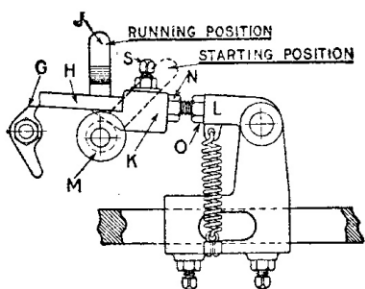

Figure 13
**Fourth.** See that the screws (Figure 13) which fasten the clamp to the push rod are tight and that the one nearest the cylinder head is in the hole in the bottom of the cam rod, then adjust the length of push rod "H" (Figure 13) until the end of the rod touches the push finger "G". Tighten locknut "O".
**Second.** Be sure timing lever "J" shown in Figure 13 is in running position, then turn the flywheels to the right until the piston starts back into the cylinder on the
**Sixth.** Take off the tripping lever, be sure the magneto wire is fastened to the terminal. Turn the flywheels to the right to see if the magneto trips off when the word **Spark** is opposite the top of the cam rod. If not, adjust the wedge "K" (Figure 13) carefully until it does. To make engine fire earlier, move wedge "K" toward magneto. To fire later, move wedge "K" away from magneto.